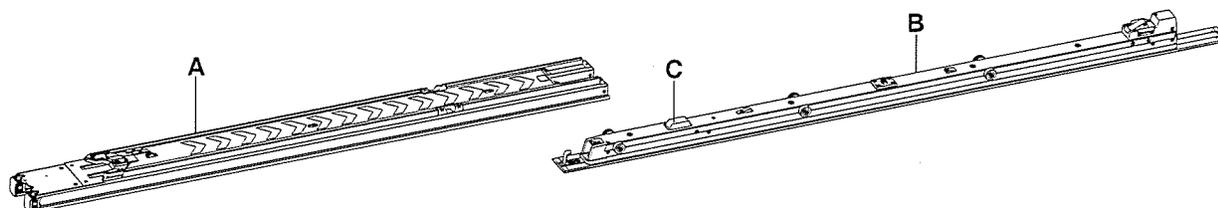

Figure 10: Install transfer assembly
14. Position the transfer assembly (A), so the open end faces the anchor assembly (B) (Figure 10 on page 20).
- When you install the transfer assembly, slowly slide the transfer assembly. Do not break the cot inductive charge housing (C) (Figure 10 on page 20).